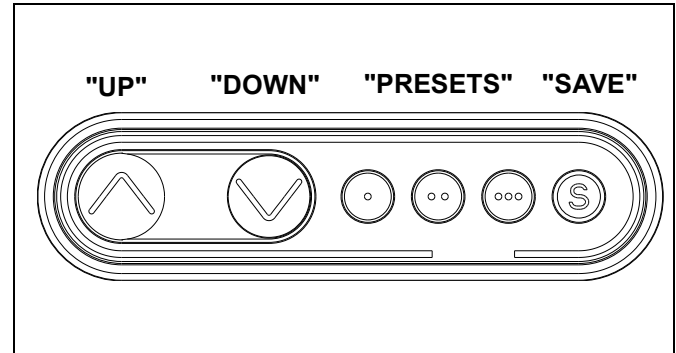

Figure 15
1. Press "UP" or "DOWN" buttons to raise or lower height as desired. (See Figure 15)
1. Adjust height until desired preset level is reached using "UP" and "DOWN" buttons. (See Figure 15)
2. Press "SAVE" button. (See Figure 15)
3. Press one of three preset buttons (., .. or ...) to save preset position. (See Figure 15)